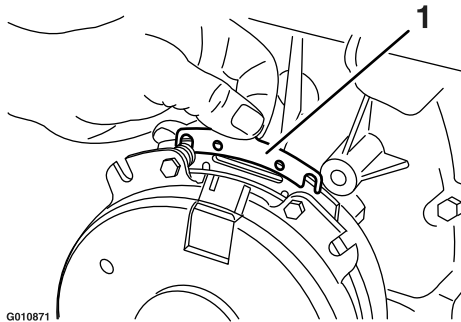

Figure 80
- B. Using needle-nose pliers, or by hand, hold the tab and remove the shim (Figure 80).
Remove any buildup of grass, dirt, or other debris from the engine screen. This helps ensure adequate cooling and correct engine speed and reduces the possibility of overheating and mechanical damage to the engine (Figure 80).